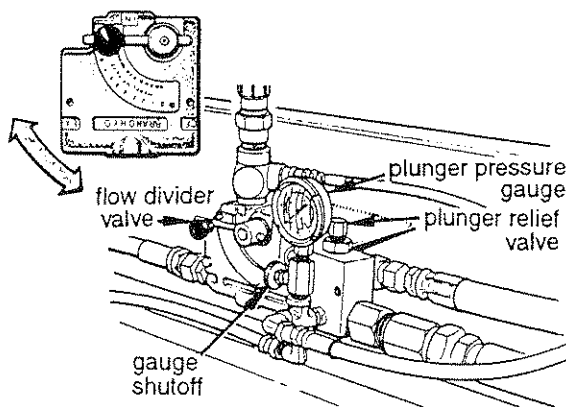

Fig. 37 Flow divider valve, plunger relief valve, pressure gauge, and gauge shutoff
2. **GAUGE SHUTOFF OPEN** Check that the gauge shutoff is fully open (fig. 37, counterclockwise is open).
3. **FLOW DIVIDER VALVE OPEN** Check that the flow divider valve is fully open (fig. 37, "10" position).
6. **REDUCE PLUNGER SYSTEM RELIEF VALVE SETTING** Reduce the plunger system relief valve setting to prevent dangerously high pressure due to a previous misadjustment. Remove the plunger system relief valve protective cap (fig. 37). Insert a 5/32 inch hex wrench into the adjustment screw. Turn the hex wrench counterclockwise several turns to lower the pressure. Leave the hex wrench in the adjustment screw.